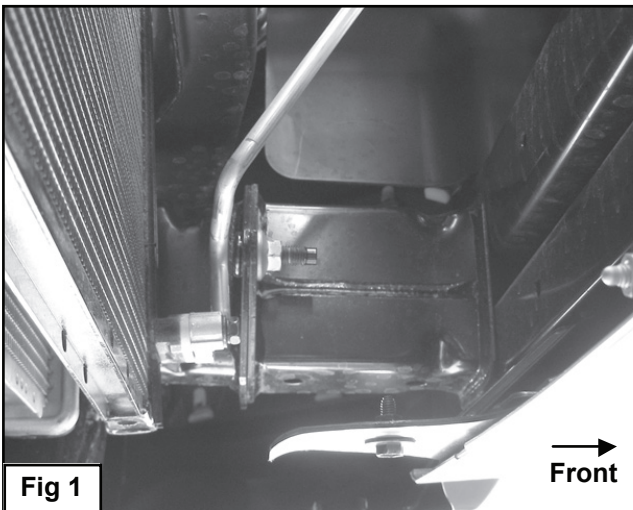

Fig 1
Start installation at the driver side, front of the vehicle. Remove the factory skip plate if equipped. Starting behind the front bumper on the driver side, locate the section of rectangular frame channel attached to the back of the bumper, (Fig 1). Insert (2) 10-1.5mm x 110mm Hex Bolts with (2) 10mm x 34mm Large Flat Washers into and down through the (2) vertical holes in the top of the bumper bracket, (Figs 2-3). Select the driver side Frame Mounting Bracket. Line up the (2) slots in the Bracket with the (2) 10mm Hex Bolts. Secure the Bracket to the bottom of the bumper bracket with (2) 10mm x 34mm Large Flat Washers and (2) 10mm Nylon Lock Nuts, (Fig 4). Do not tighten hardware.